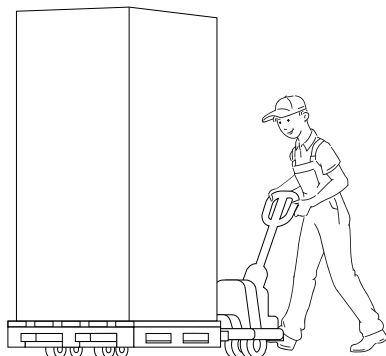

Fig. 4.3
- Handle the machine with appropriate trolley. Lock the machine on the trolley with a sturdy belt (Fig. 4.3)